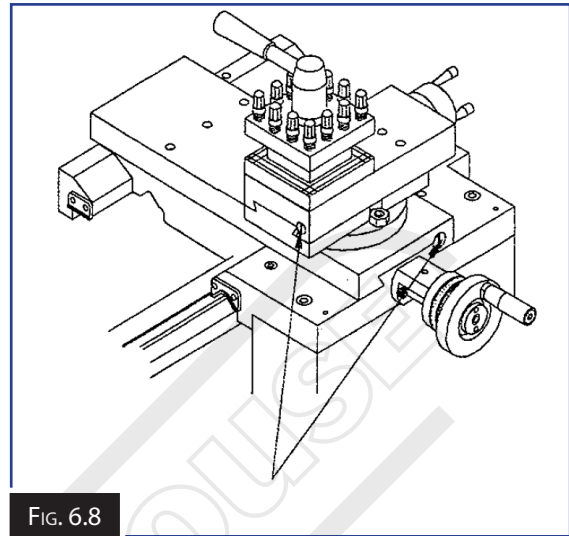

FIG. 6.8
2. Release the rear gib screw and tightening the front screw a little at a time. Check constantly for a smooth action through out the full slide travel. (Fig. 6.8)